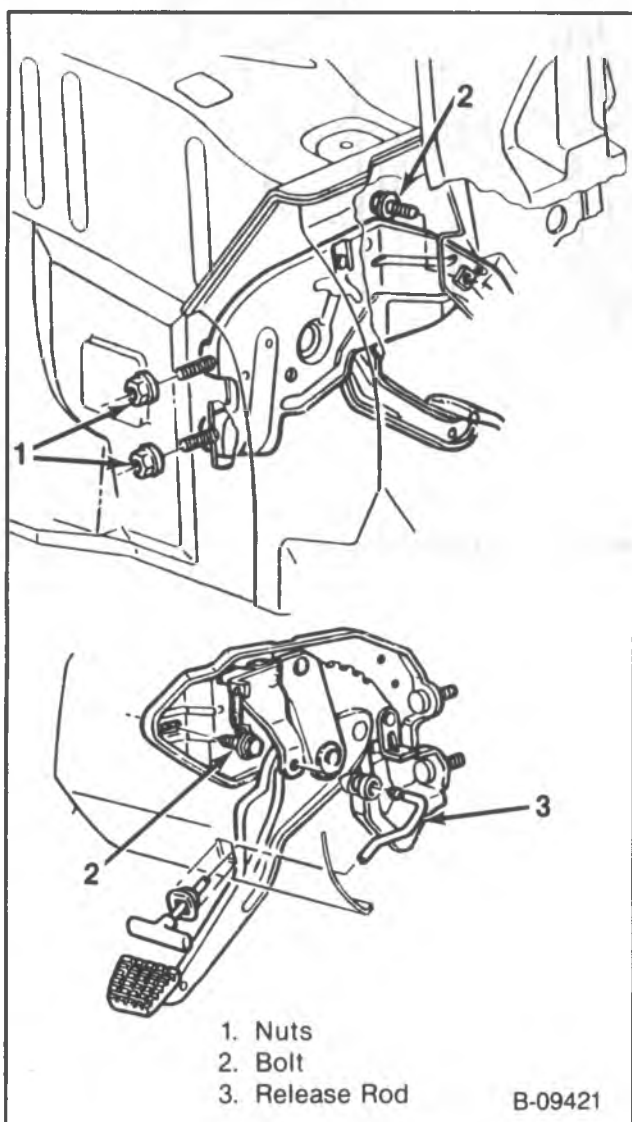

Figure 20 — Removing/Installing Parking Brake Pedal on R/V and G-Models
Remove or Disconnect (Figure 20)
Install or Connect (Figure 20)
Remove or Disconnect (Figures 20, 22 and 23)
1. Nut (31) from the equalizer (32).
2. Connector (33) from the front cable.
4. Nuts (1) (figure 20).
5. Bolts (2) (figure 20).
7. Bend retaining fingers (34) and (35).
9. Cable assembly (36).
1. Cable assembly (36).
- Make sure all the retaining fingers (34) and (35) are completely through the holes.
4. Bolt (2) (figure 20).
5. Nuts (1) (figure 20).
7. Connector (33).
8. Nut (31) onto the equalizer (32).